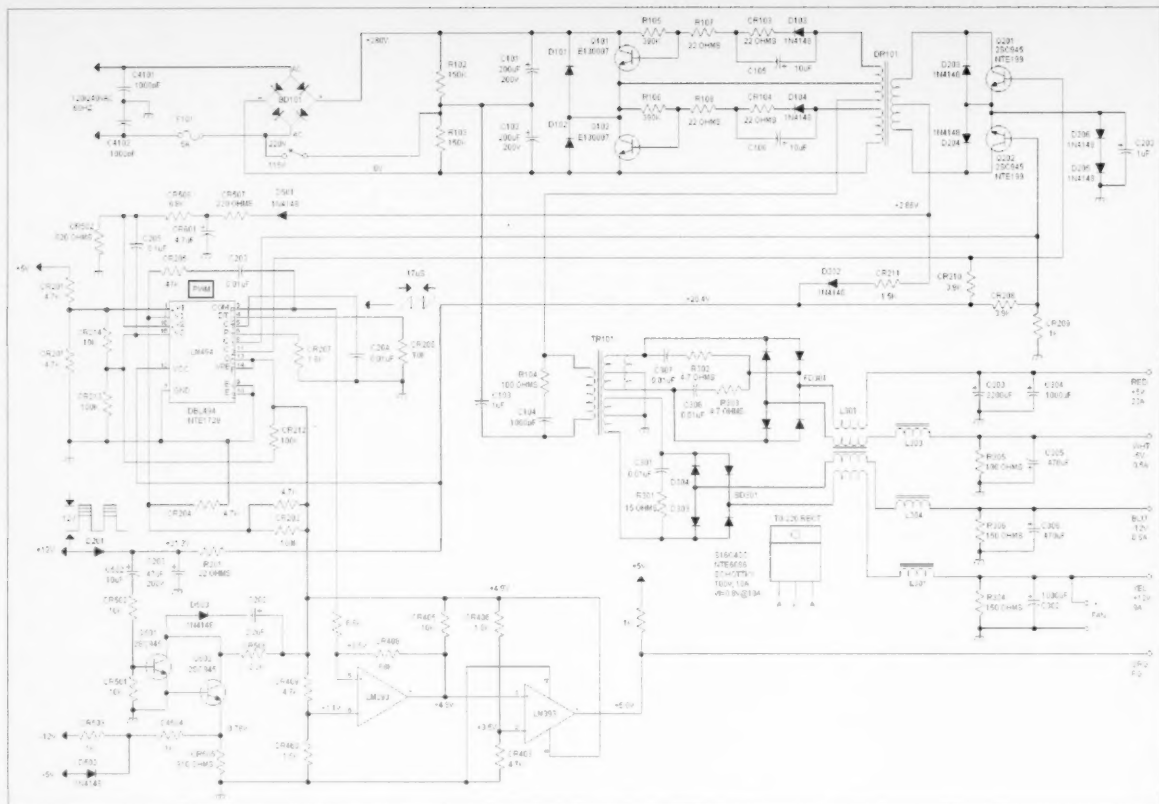

Fig. 7. Schematic of a typical non-ATX computer power supply that uses a voltage boost circuit.
G. Having cleared all output circuits, the voltage boost circuit, and the power supply still fails to operate; it may be time to use an oscilloscope to check the PWM waveforms. A complete schematic of a voltage boosted power supply circuit is shown in **Fig. 7**.